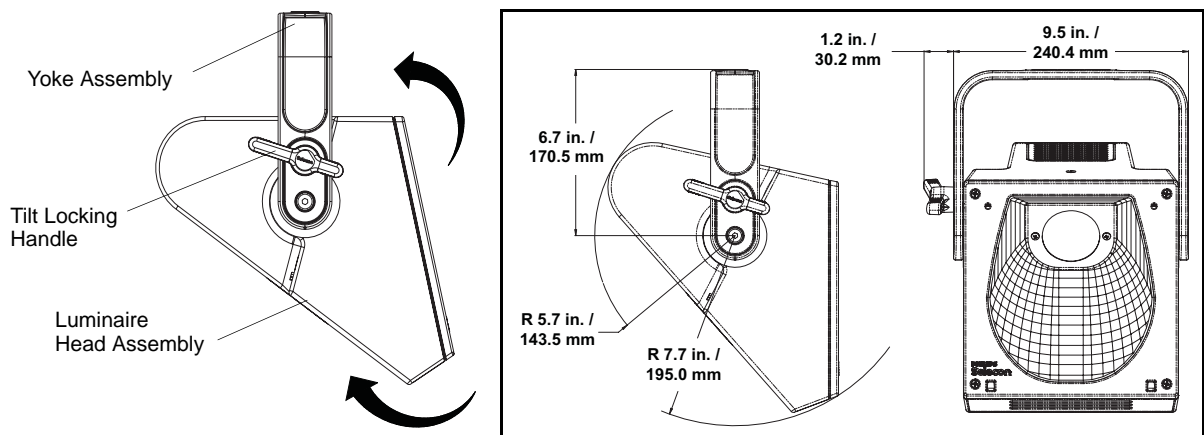

Figure 6: Tilt Adjustments
Step 1. As shown in **Figure 6**, at tilt locking handle, loosen handle by twisting to the left.